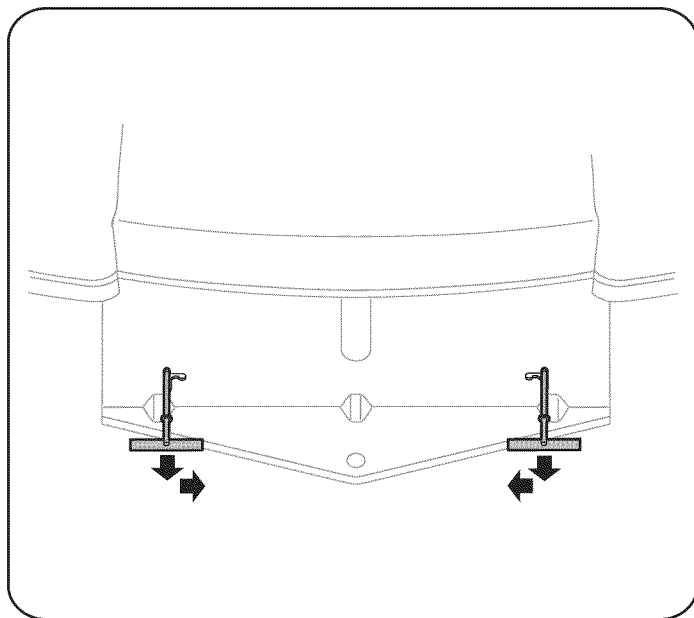

Figure 6
3. Repeat to engage the other dump rod to allow the tractor to be manually moved. See Figure 6.